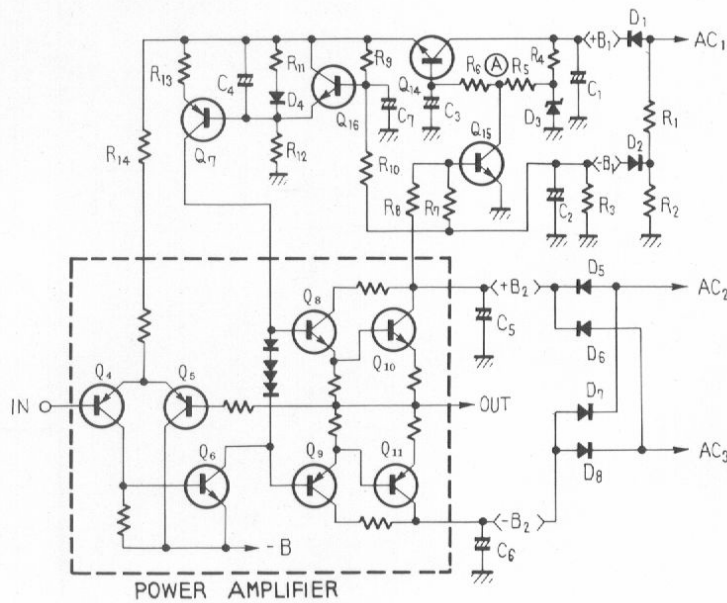

Fig. 1 Muting Circuit
6.4 MUTING CIRCUIT (Fig. 1)
This muting circuit, shown in Fig. 1, functions to reduce shock noise and residual sound when the POWER switch is operated ON-OFF.